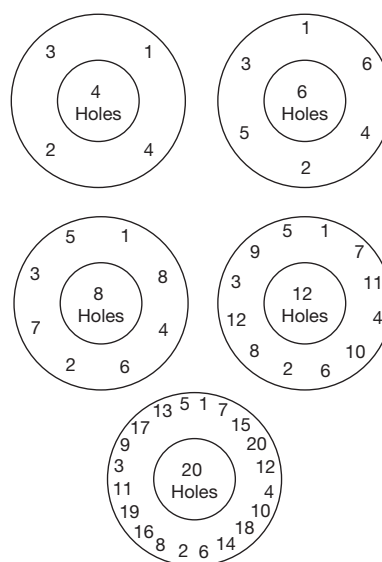

Figure 36: Bolt Tightening Patterns
- 16. Apply a small quantity of lubricant to the spring washer bearing surface of the spindle (15).
- 17. Place the spring assembly on the spindle (15).
- 18. Place a new bonnet gasket (12) in the base (1) before installing the bonnet (11). Uniformly tighten the stud nuts (14) using the appropriate bolt tightening pattern (see Figure 36). Determine the required torque for the subject valve (see Table 10). Determine the torque values for each round of the pattern (see Table 11). The last round ensures that all stud nuts are at the required torque.
- 19. With the adjusting screw locknut (20) assembled near the top of the adjusting screw (19), apply a small quantity of lubricant to the spherical end and threads of the adjusting screw.
- 20. Thread the adjusting screw (19) into the bonnet (11) until it contacts the spring washer (17).